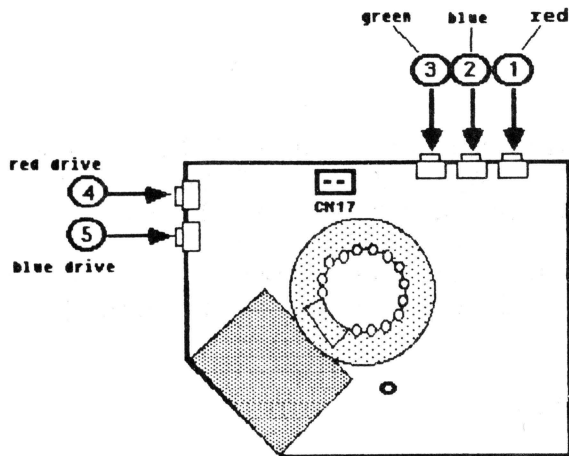

FIGURE 6
- a) VR501 (Red Bias) -- Figure 6, #1
- b) VR502 (Green Bias) -- Figure 6, #2
- c) VR503 (Blue Bias) -- Figure 6, #3
- d) VR504 (Red Drive) -- Figure 6, #4
- e) VR505 (Blue Drive) -- Figure 6, #5